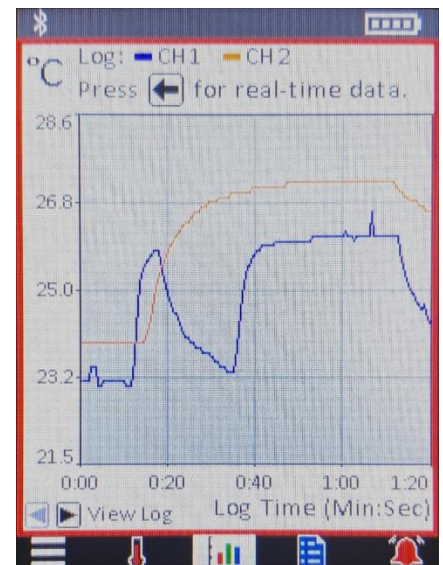

Figure 13.5
- 6) Example is shown in Figure 13.5 to the right.